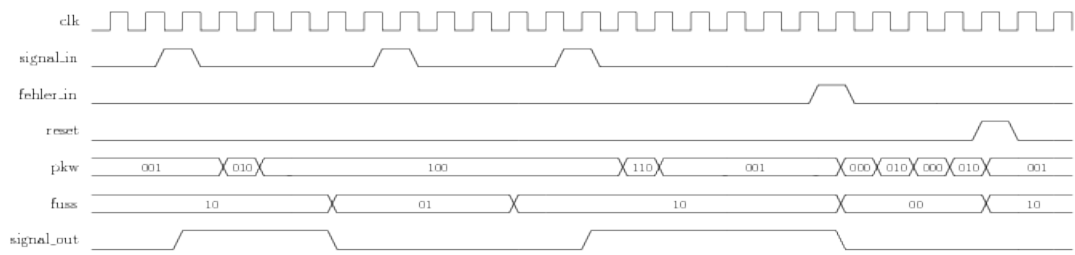

Figure 2: Simulation input
2. Write a test bench and simulate it. Clock period is 2s and an example wave form is shown in figure 2.
2. Presentable simulation model (see figure 2)